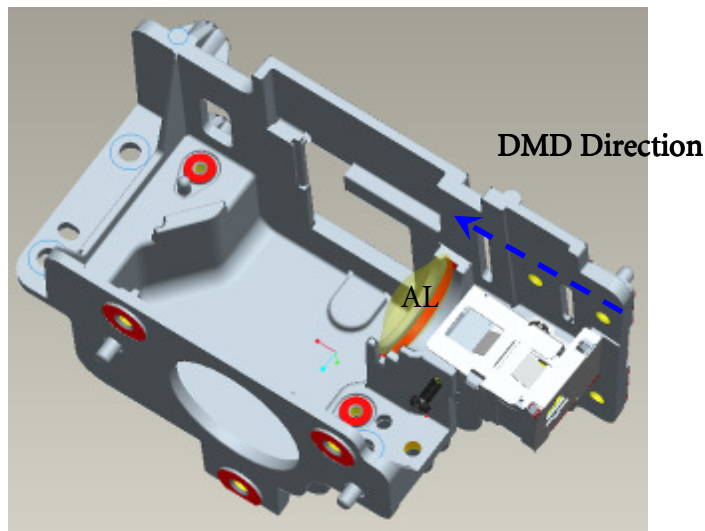

Fig. 3-1
- 3.1 Placed “AL” on the “HSG DMD”. The “raised surface” of “AL” shall toward “DMD direction” (Fig. 3-1).